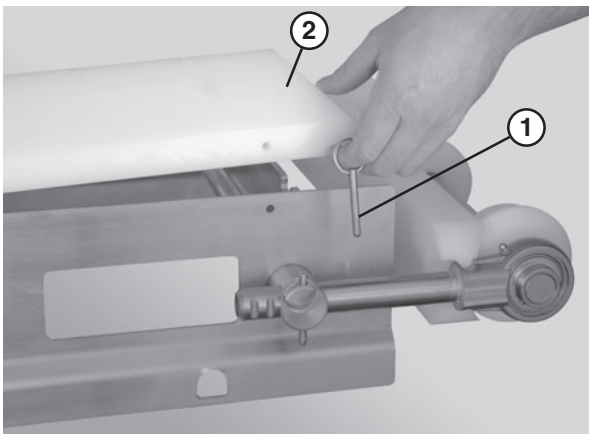

Figure 51
1. Remove the guides, if applicable, by removing the pull pins (**Figure 51, item 1**) that connect the guide (**Figure 51, item 2**) to the frame.